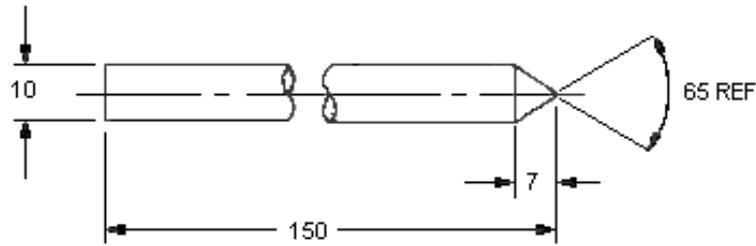

Figure 63 Coupling Pin Punch
- (2) Manufacture the punch to be used to expand the couplings as detailed in Figure 63.